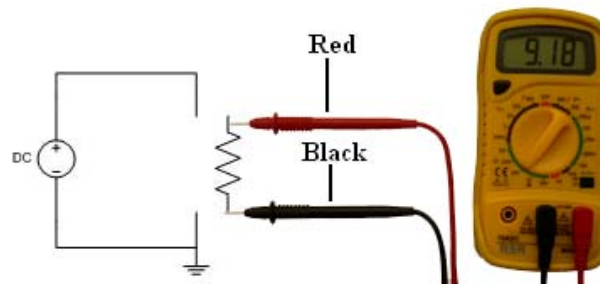

Figure 1.15: Measuring Resistance
3. To measure resistance, the component you are measuring must be removed or the power source must be disconnected, and place the ohmmeter in parallel with the component. See Figure 1.15